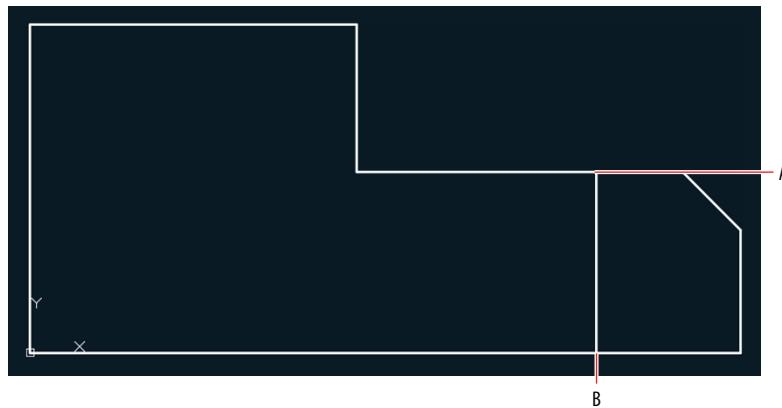

FIGURE 3.9 Drawing a line without Object Snap
1. Using Polar Tracking, but without invoking Snap or Object Snap, draw a line using points A to B in Figure 3.9 as a guide. Click each point as accurately as you can because I want you to see that you can’t make it perfect without using Object Snap.